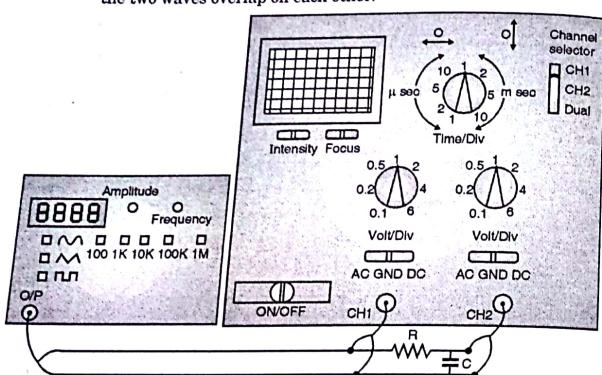

Fig. 7.15.6
- The phase shift circuit is connected into the circuit along with the CRO and signal generator as shown in the Fig. 7.15.6. The RC network introduces a phase difference between the signals fed to CH1 and CH2.
- (3) Two signals of the same frequency are displayed on the screen. It is seen that the phases of the signals are different.
- (4) The vertical position settings of CH1 and CH2 are adjusted such that the two waves overlap on each other.